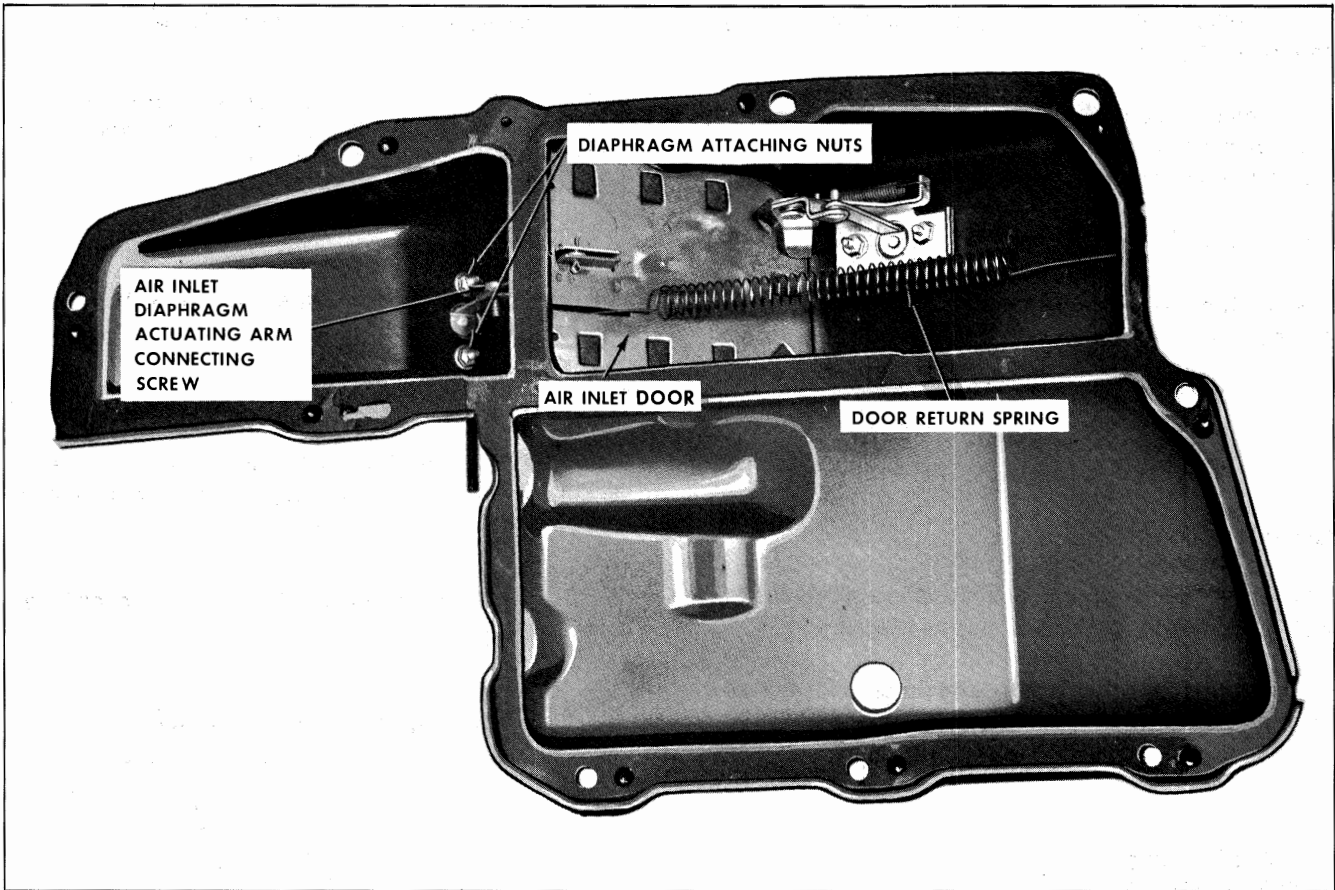

Fig. 4-3 Air Inlet Diaphragm Attachment
1. Remove diaphragm actuating arm from air door by removing connecting screw (Fig. 4-3).